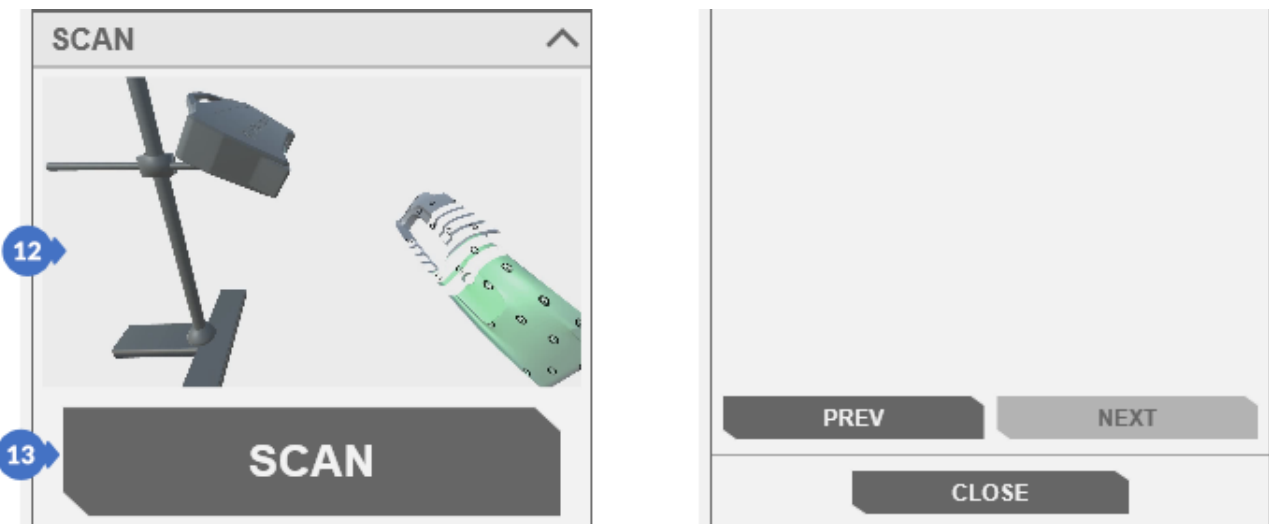

Figure 271. Scanning with markers
The last step of the *Marker Scan Wizard* has the *SCAN* button (13) (Figure 271) to execute the scanning process. After the scanning of one side of an object, you can move the object or the scanner to scan its another side, so that the end of the process the entire surface of the object will be scanned.